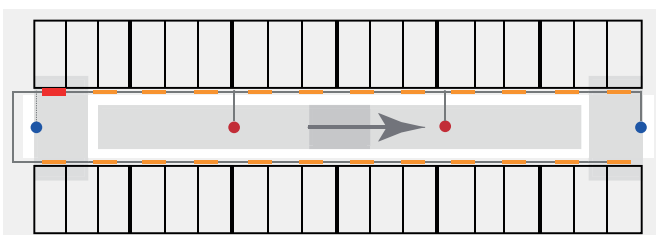
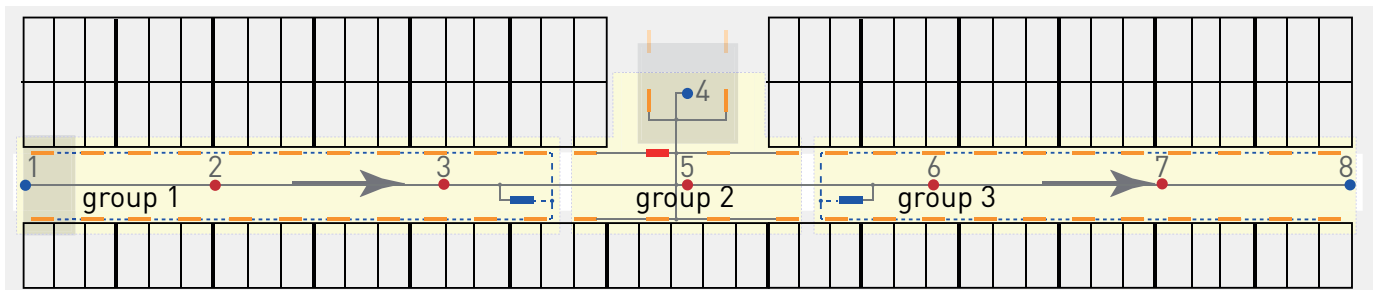

Figure 11:
Figure 14:
- Detection range can be restricted (shaded) with an aperture (see figure 11).
All luminaires are continuously connected with a mains voltage-proof 5-core cable for power supply and control. The sensors are only connected to the controller luminaire via the two DALI control lines (see figure 11). It should be noted that the sensors must be taken into account when determining the max. 64 DALI devices that can be operated in a system.
In the two **areas of type 4** the maximum number of DALI devices is also exceeded. Here, 2 repeaters are used per system to assign the luminaires connected at the output of the repeaters to different groups during commissioning (see figure 14).
Some IS 3360 sensors are equipped with apertures so that the detection area is shaded, as shown in figure 11 and figure 14 (see installation instructions of the sensor).
- For the two driveways of **type 4**, the luminaires are divided into three groups (see figure 14). To this end, the luminaires must be identified individually one after the other by calling them up and assigning them to the groups via drag and drop.
- The sensors must also be identified and then assigned to the luminaire groups as shown in figure 14.